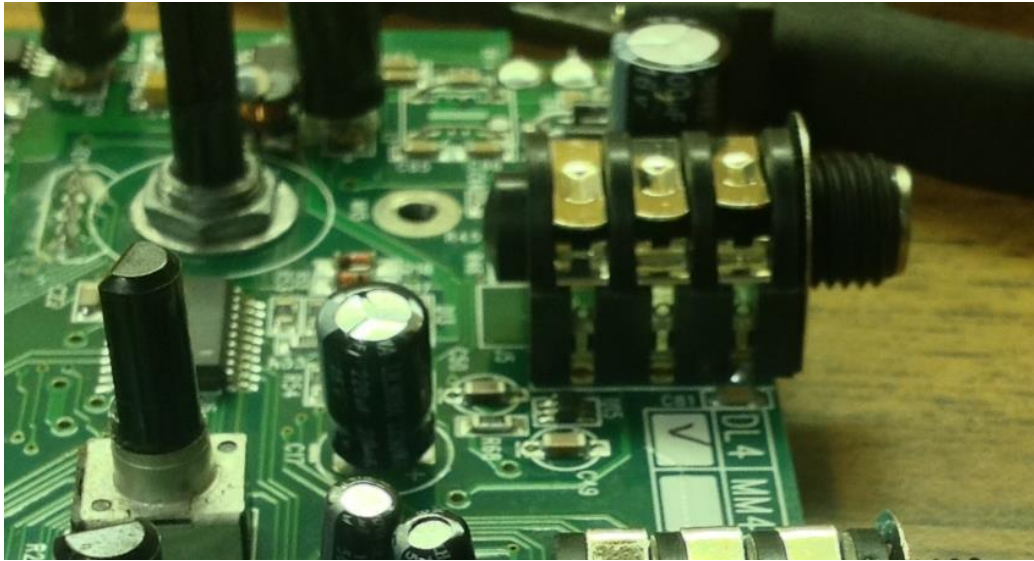

Figure 6.2
2. Flip the DL4 PCB over and find the Expression Jack (it will be the jack farthest to the left by a large capacitor and the power jack). Bend the three tabs up so that they are no longer in contact with their respective terminals. (Figure 6.2)